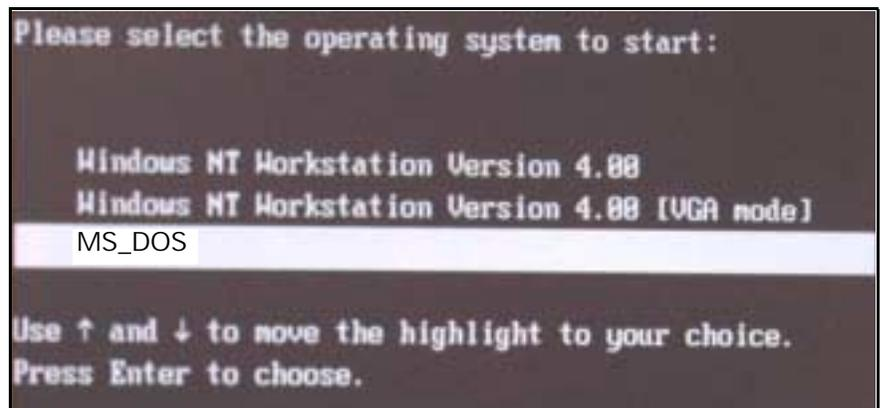

Figure 4-3 NT Boot loader window
2. Using keyboard up/down arrows, select *MS-DOS* (as shown in Figure 4-3).